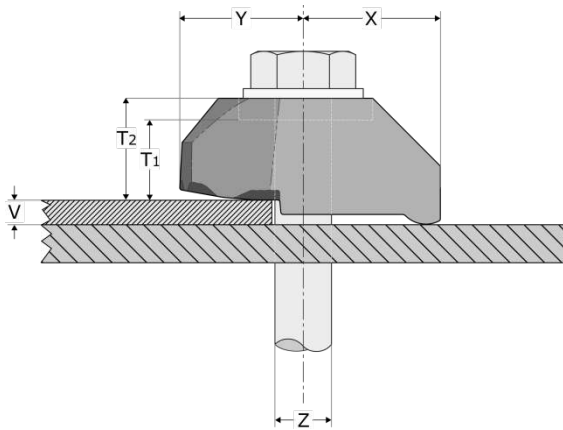

FIGURE 1—TYPE AF GIRDER CLAMP
**3.1 General:** Lindapter Girder Clamp Assemblies consist of Type AF or Type AAF girder clamps illustrated in Figures 1 and 2, respectively; high-strength structural bolts or set screws, steel hexagon nuts, hardened steel washers and Direct Tension Indicator (DTI) washers, and are installed with either a steel location plate or a steel end plate to connect steel elements together. The Type AF girder clamp shown in Figure 5 includes a variation of the Type AF with a filler washer (Type AFW) which fills the recess of the Type AF girder clamp for use with ASTM F3125 Grade A325 and Grade A490 bolt assemblies.